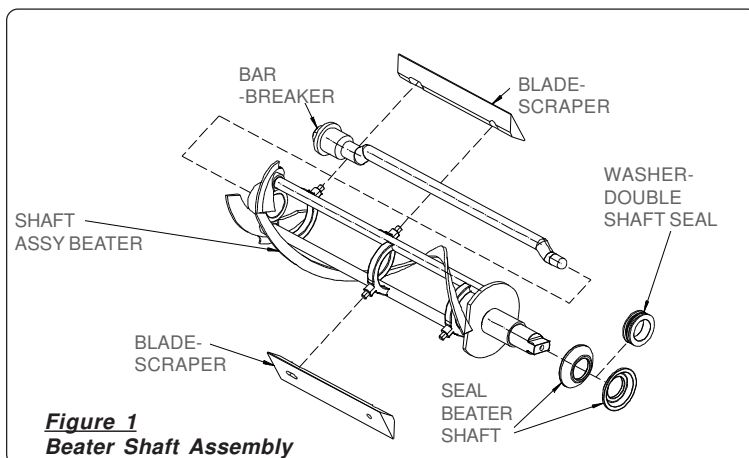

Figure 1
1. Assemble and lubricate freezer components in accordance with the Operator's Manual instructions. See figures 1 and 2.